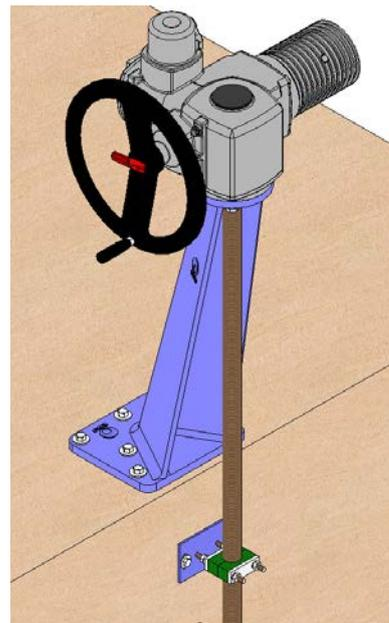

fig.12
- Leaning floor stand to order (fig. 12).